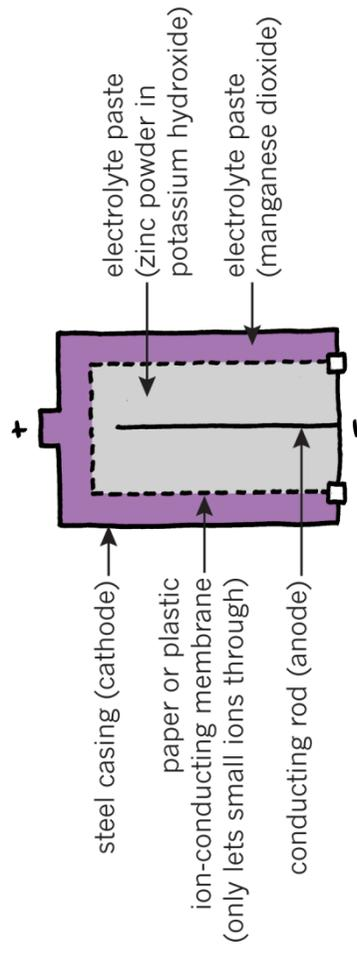

Figure 4: An alkaline cell
- In the alkaline cell in Figure 4, the steel casing is the positive electrode. The knob on the top of the cell is part of the casing. The casing is usually wrapped in plastic, except for the knob at the top.